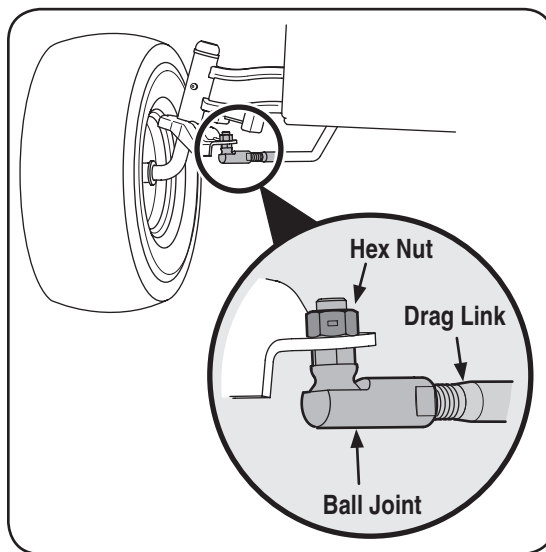

Figure 5-3
1. Remove hex nut on the top of ball joint. See Fig. 5-3.